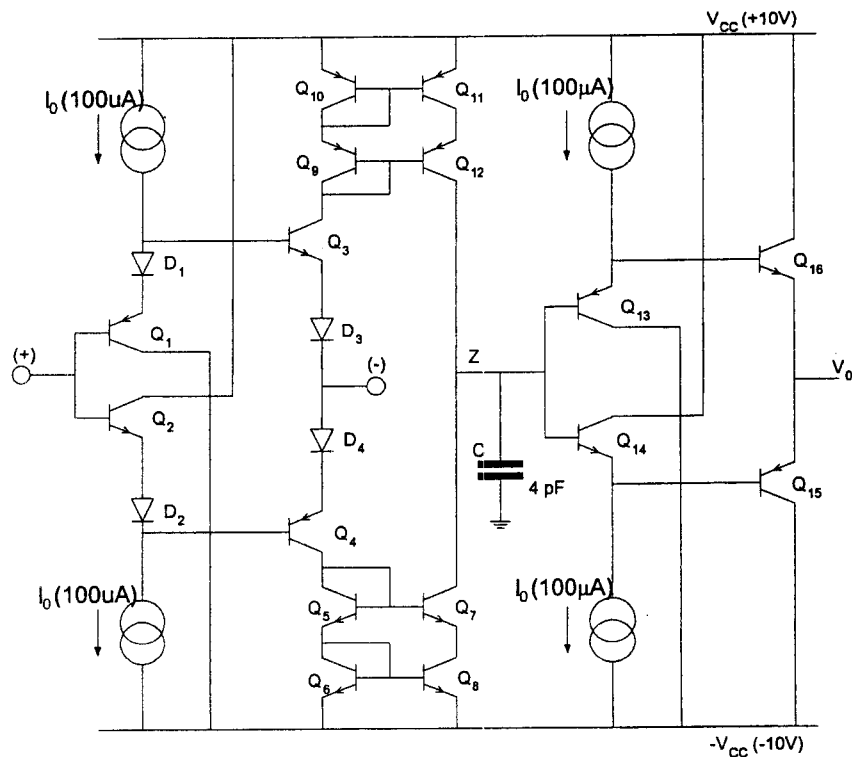

Figure 2
- (b) The circuit shown in Figure 2 is a typical architecture for a current-feedback op-amp. Very briefly explain the operation of the circuit and comment upon why the slew rate of such an op-amp architecture can potentially be greater than  $1000 \text{ V}/\mu\text{s}$ . [5]